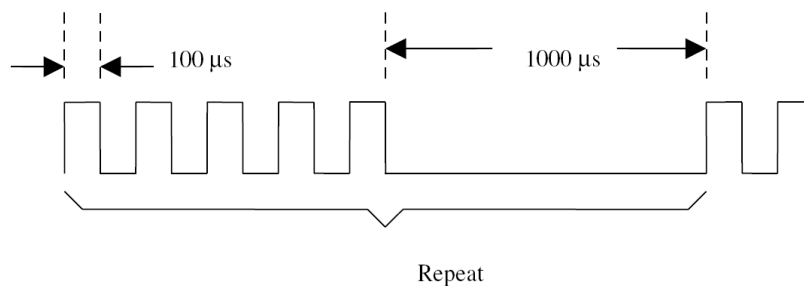

Figure 2. Signal for Part 6.
8. Connect your output compare signal to a logic analyzer. Verify that the square wave has a 1 kHz frequency and a 50% duty cycle, and that the other signal looks like the signal of Figure 2.